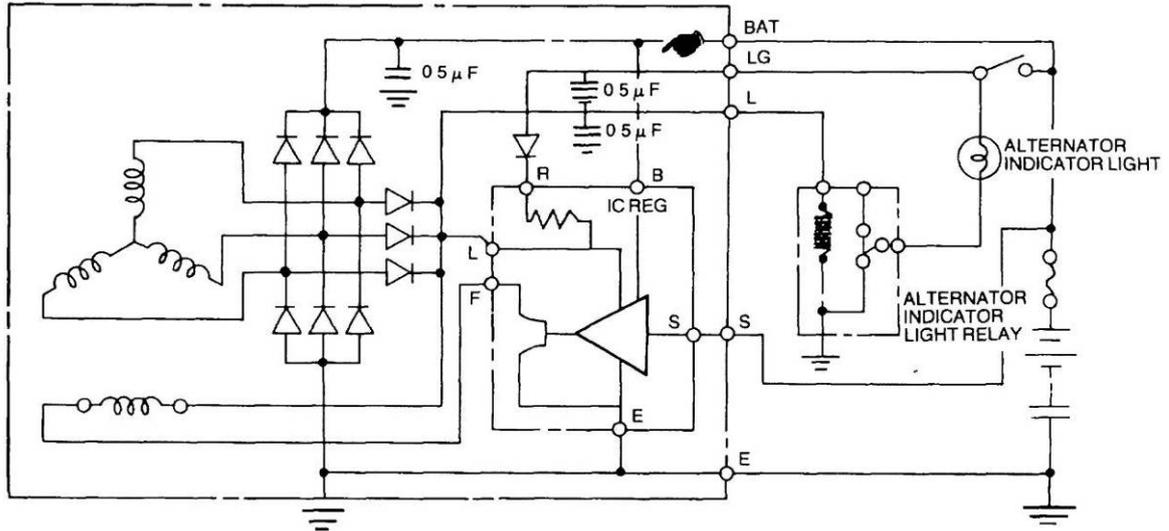

Figure 322 Alternator Circuit Diagram
- k. Figure 322 is included as an aid to circuit tracing.